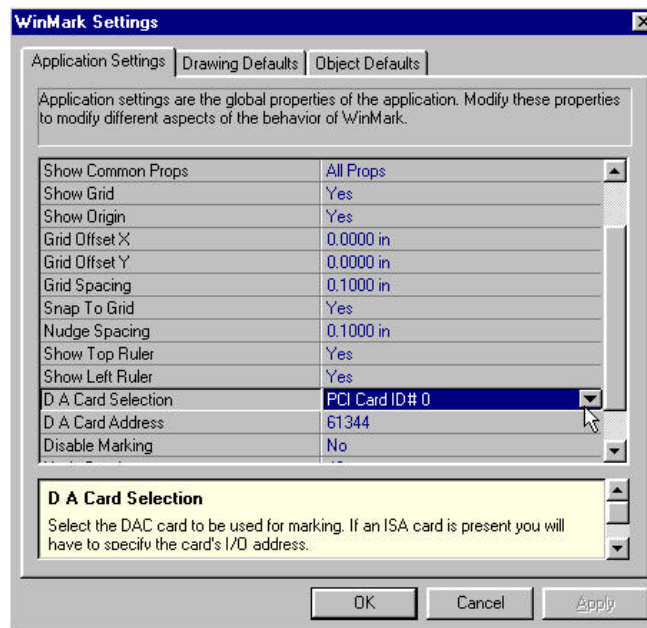

Figure 7 Application Settings tab
- 3 When WinMark Pro opens, click *Tools* on the *Menu* bar and then click *General Settings....* On the *Application Settings* tab, locate the *DA Card Selection* property and verify that the PCI card is properly identified. See Figure 7. If an older ISA-bus FLCC is also installed in your computer, you may need to select the PCI card from the drop-down list.